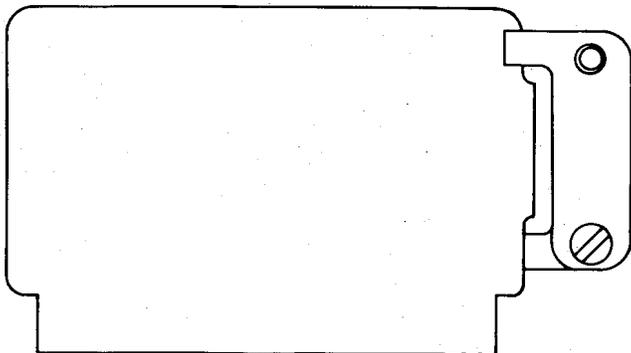

Fig. 3—KS-19342-Type Connector
2.03 **KS-19342, L1 Through L10:** The KS-19342-type (Fig. 3) are miniature, polarized, multicontact, female connectors. For more information, see Table B.